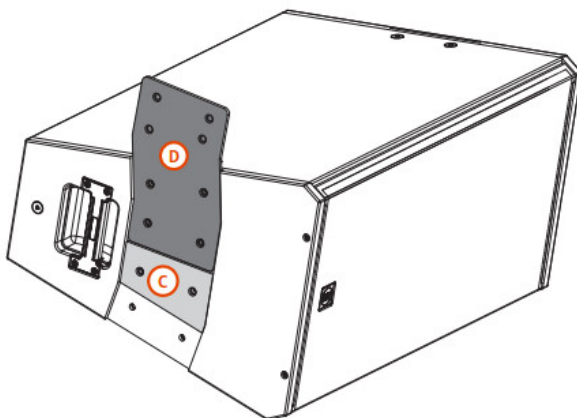

FIGURE 1
- On the top and following speakers of the cluster, the External Plate C must be placed next to the C-BR at 10°, as shown in FIGURE 1.